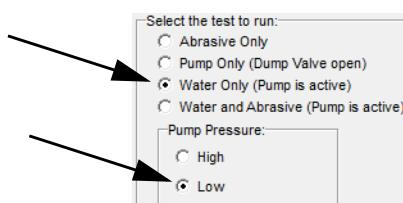

Figure 3-7
- b. Select **Water Only** and **Low** pump pressure to begin the test (Figure 3-7).
- a. If necessary, click the **Test** button to display the nozzle test options (refer back to Figure 3-7).
- c. Click the **Test** button to display the nozzle test options (refer back to Figure 3-7).